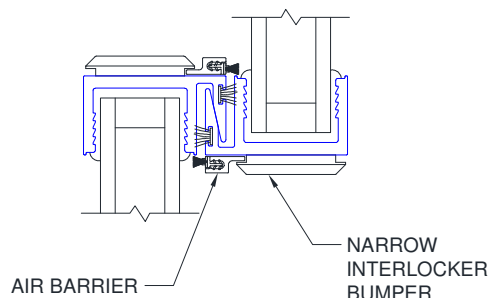

Figure C1:
1. See Figure C1 and C2 for locations where the air barrier can be placed.